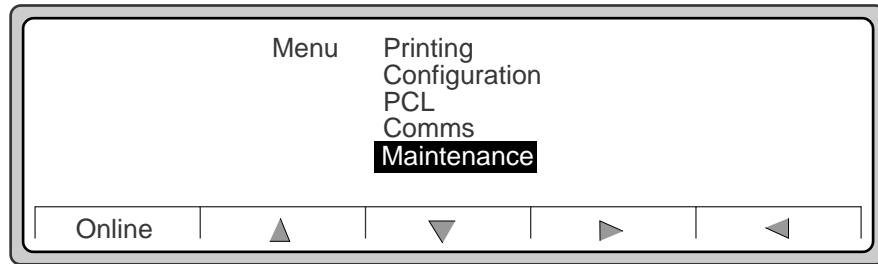

Figure 6-14 Menu
4. Use ▼ to highlight Maintenance, as shown in Figure 6-14, and press ►.